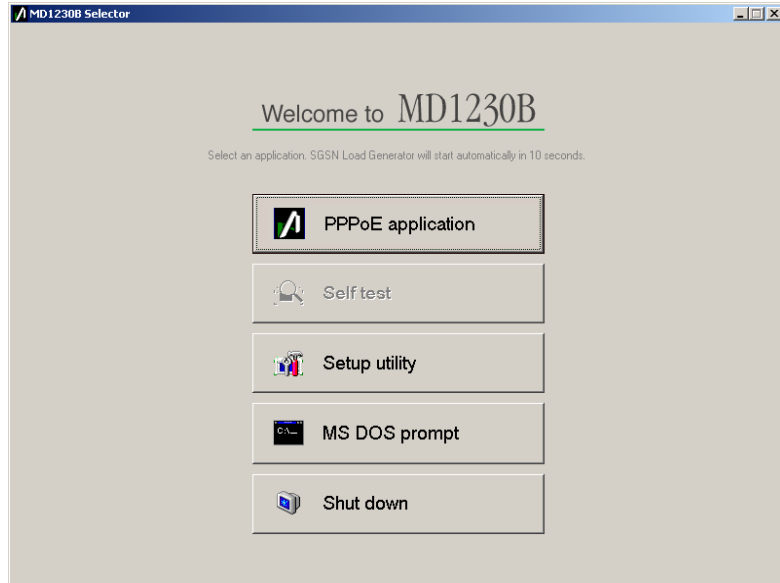

Fig. 1.4-3 Selector (PPPoE mode)
6. Check that the Selector is as shown in the Fig.1.4-3. The [PPPoE application] button on the top has changed to the dedicated button for starting this option.